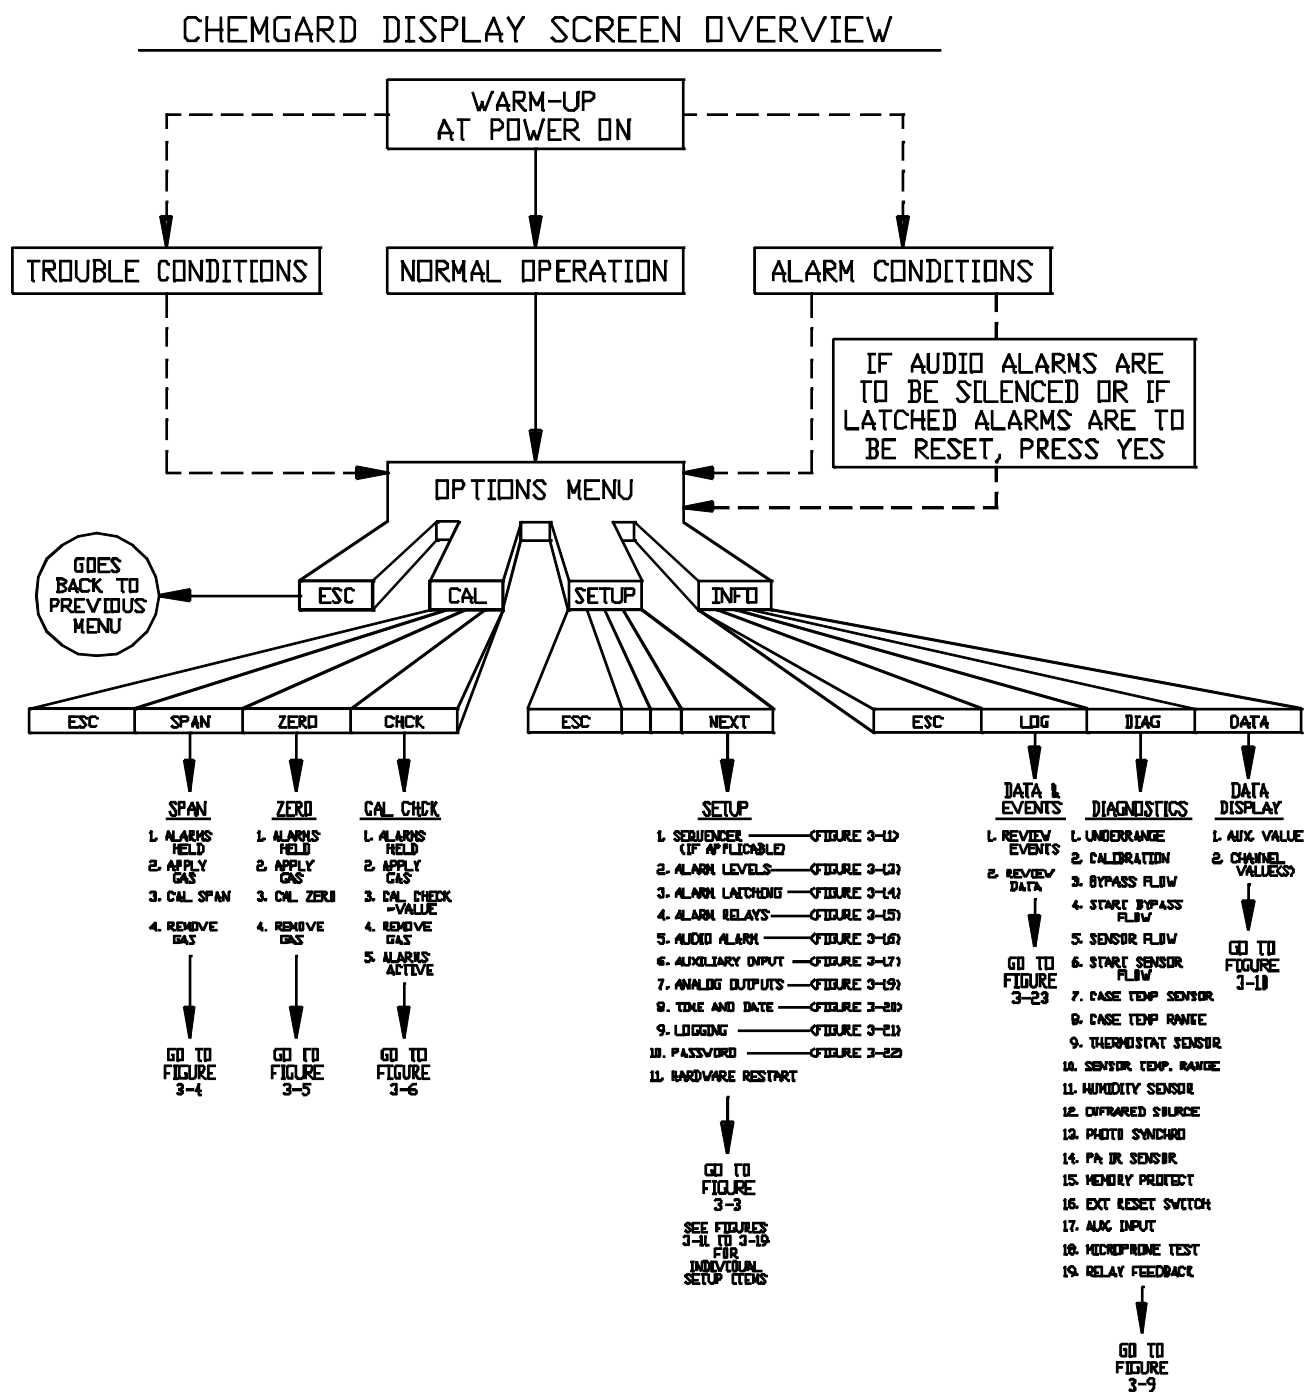

Figure 3-1. Display Screen Overview
- The Display Screen Flow Overview (FIGURE 3-1) shows a general system function flow. See the following FIGURES for specific Display Screen details: